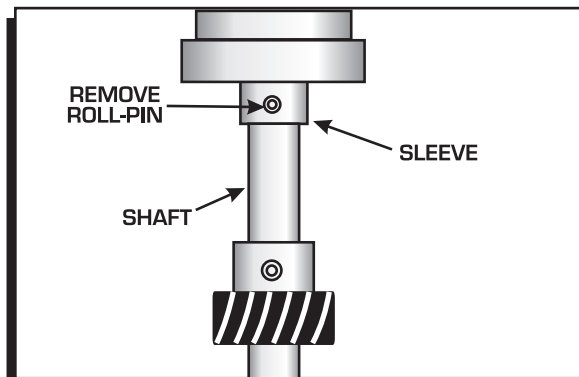

Figure 7 Removing the Retaining Sleeve.
3. Remove the roll-pin from the shaft and slide the retaining sleeve down. It should not be necessary to remove the gear (Figure 7).